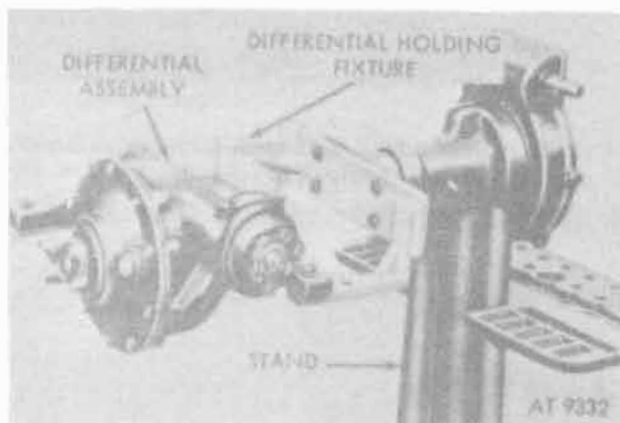

Figure 12-1. Differential housing assembly mounted in holding fixture.
a. Position differential housing assembly in holding fixture and stand (fig. 12-1). Rotate assembly and remove drain plug to drain lubricant from housing.